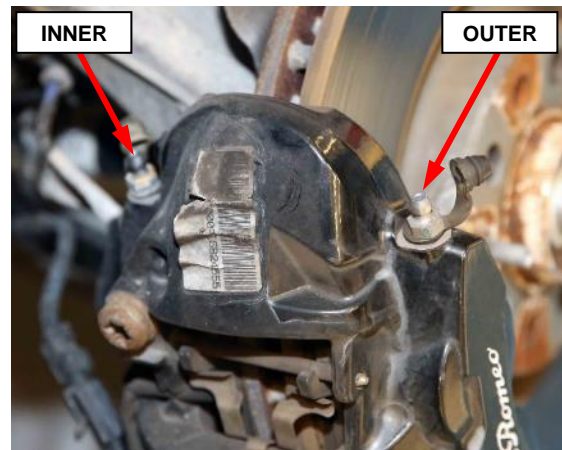

Figure 45 – Front Brake Caliper Bleeder Screws
4. Connect the brake fluid recovery hose to the INNER bleeder screw of the right front brake caliper and to the recovery container (Figure 45).
6. Repeat the procedure for the right front brake caliper OUTER bleeder screw (Figure 45).
7. Repeat the same procedure for the left front brake caliper as was performed on the right front brake caliper **Steps 4-6**. (Figure 45).